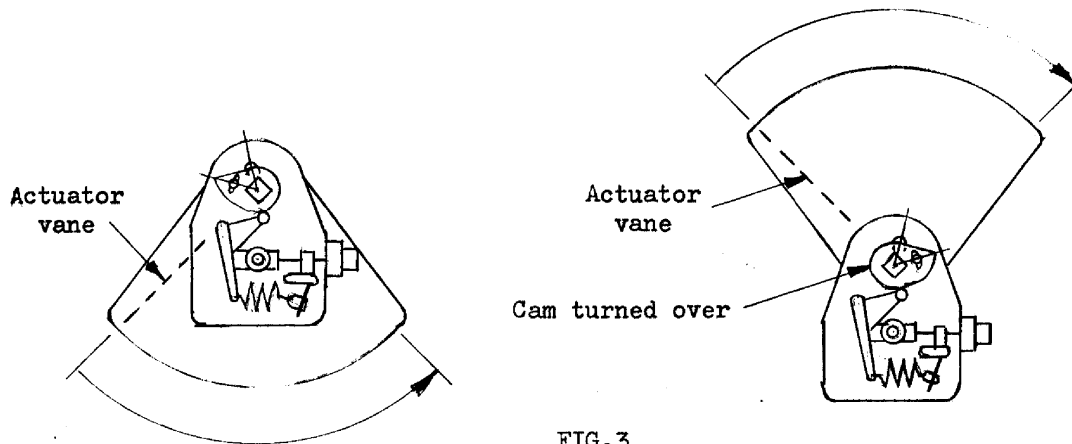

FIG.3
3. Rotate the Positioner thro' 180° and reassemble it to the Actuator Fig.3